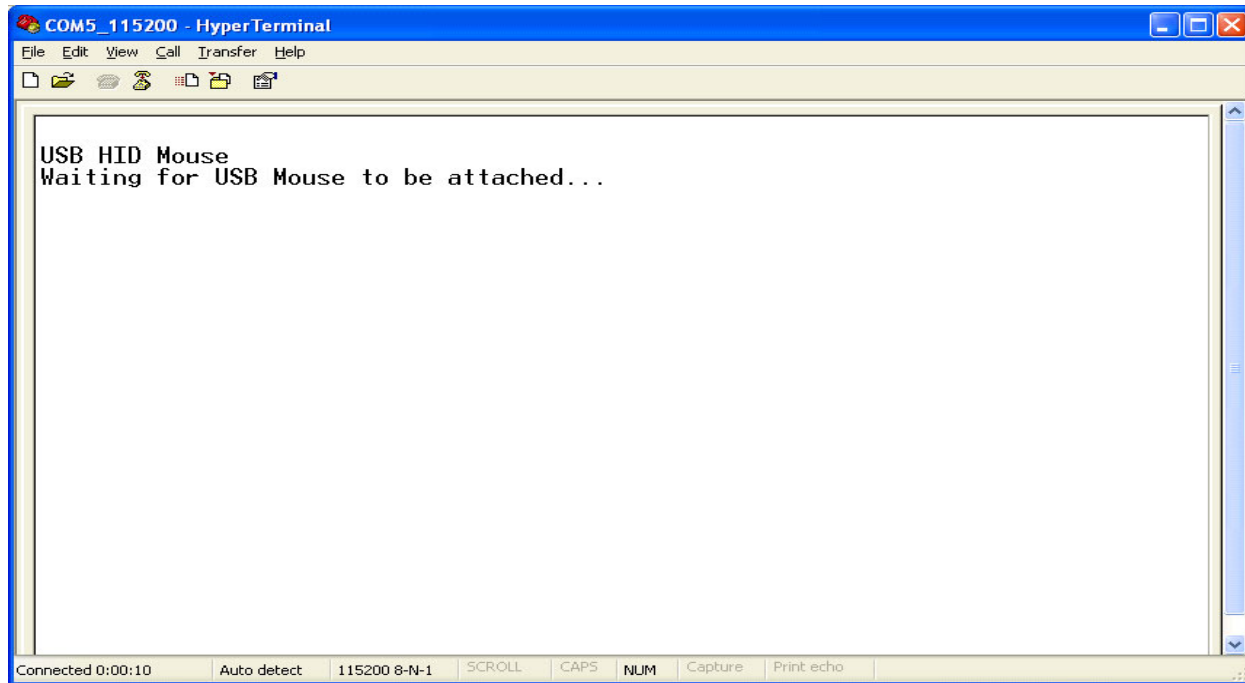

Figure B-2. The USB Host is waiting the mouse attachment event
2. After the image has been loaded successfully, the Hyperterminal appears as shown in the Figure B-2: